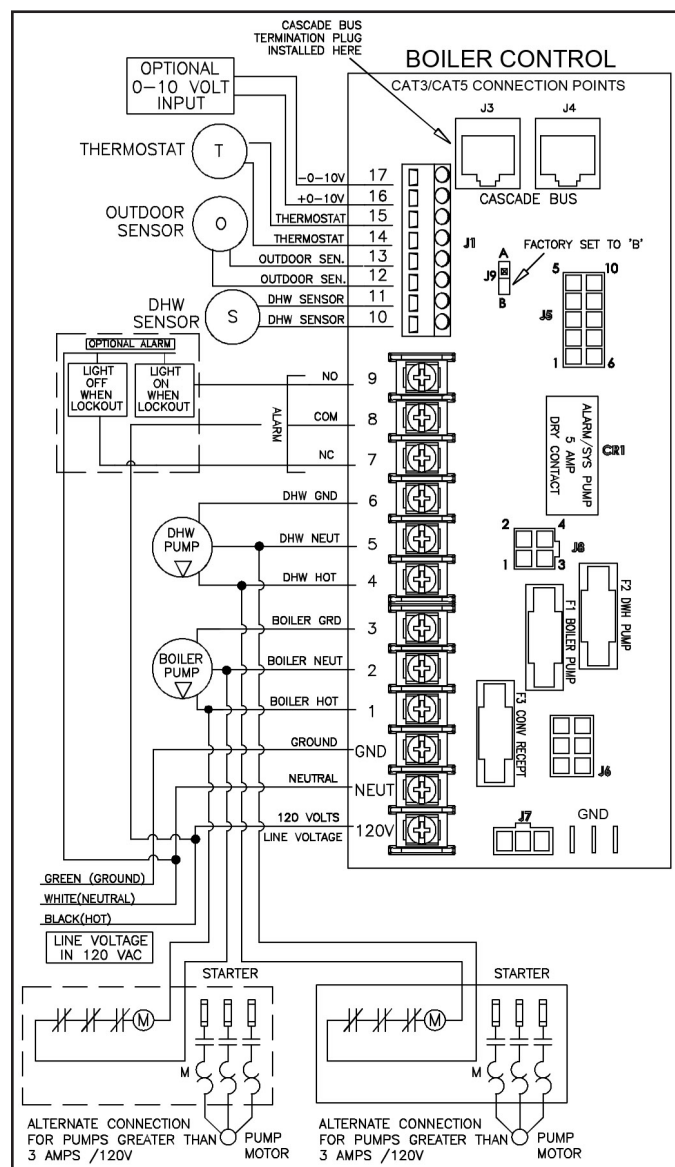

Figure 23 - Control Wiring
NOTE: A termination plug is included in the CAT 3 / CAT 5 Bus Connection Point, labeled J3 in Figure 23. DO NOT REMOVE THIS PLUG! Doing so will affect boiler operation and void warranty.
strip in the electrical junction box at terminals LINE 120V, Neutral, and Ground (shown in Figure 23).
The control includes a dry contact alarm output. This is an SPDT circuit, rated at 5 amps at 120 volts. This contact can be used to activate an alarm light or bell or notify a building management system if the boiler goes into a lockout condition. The circuit between the ALARM COM and NC terminals is closed during normal operation and the circuit between ALARM COM and NO is open during normal operation. The connections depicted in Figure 23 show two 120 volt lights connected to the alarm terminals. One light will be on when the boiler is in normal mode and the other light will be on when the boiler is in lockout mode.
1. All low voltage cables should enter the electrical junction box through the provided knock out holes as shown in Figure 23.
1. Connect the room thermostat to the terminals marked THERMOSTAT in the electrical junction box (shown in Figure 23). Alternately, any dry contact closure across these terminals will cause the boiler to run. Caution should be taken to ensure neither of the terminals becomes connected to ground.
1. If using an outdoor sensor, connect wires for sensor to the terminals marked OUTDOOR SEN (shown in Figure 23) in the electrical junction box. Caution should be used to ensure neither of these terminals becomes connected to ground.
2. Connect the indirect tank sensor (7250P-325) to the terminals marked DHW SENSOR (shown in Figure 23) in the electrical junction box.
2. Connect a building management system or other auxiliary control signal to the terminals marked 16, 0-10 VOLT + and 17, 0-10 VOLT - in the electrical junction box (shown in Figure 23). Caution should be used to ensure that the 0-10 VOLT + connection does not become connected to ground.